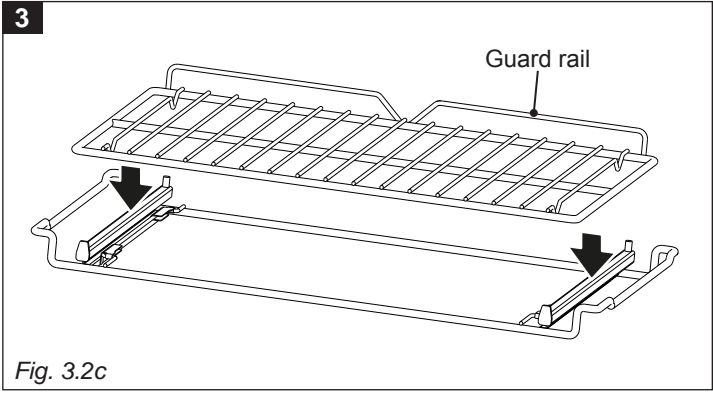

Fig. 3.2c
- You fit the oven shelf above the sliding shelf support (figs. 3.2c, 3.2d).